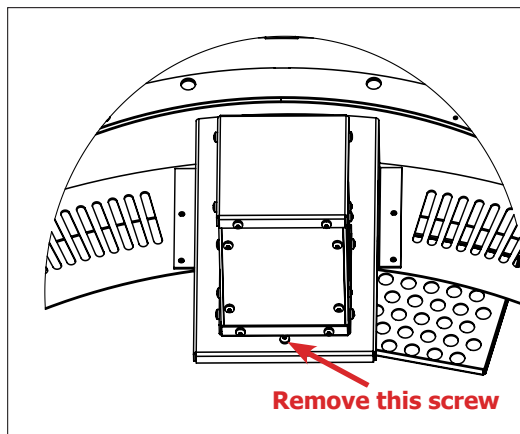

Figure 24: Valve Box Removal
4. Remove the screw on the valve box platform shown in Figure 24, slide the valve box toward the center of the unit and remove it from the platform. Be careful of the wires that feed into the bottom of the box.